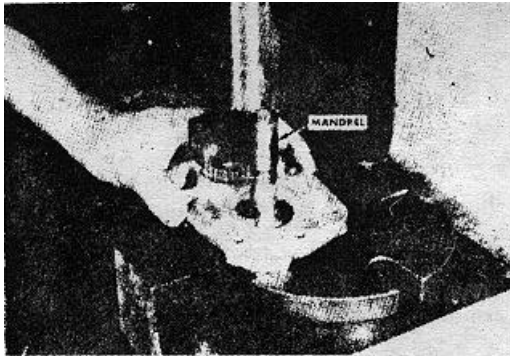

Figure 4-31. Press out the oil seal
5. Press the drive shaft oil seal from the cover. Fig. 4-31.